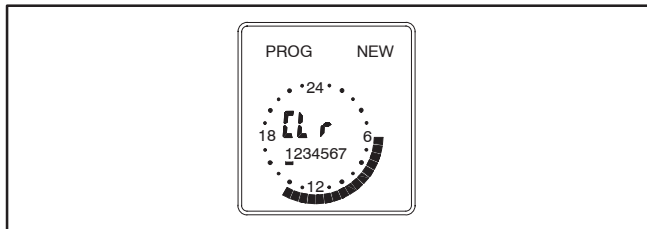

FIGURE 16. DELETING THE EXERCISE PROGRAM
- 3.. Use the + or – buttons to select the day of the week that the exercise is set. When the correct day is selected, segments will be displayed around the clock showing when the exercise period is set and **Clr** is displayed in the center of the clock (see Figure 16).